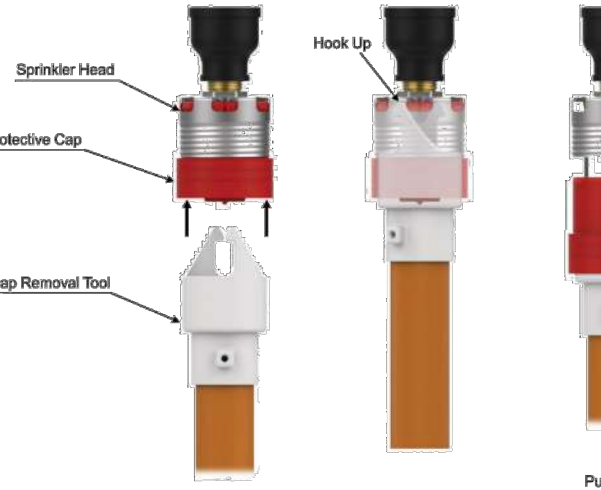

Figure 5: Protective Cap Removal
**Step 4:** Use the Cap Removal Tool for RC to remove the Protective Cap (Ref. Figure 5), and then push or screw a Cover Plate Assembly on the Cup of the Sprinkler by hand until its flange just has contact with the ceiling (Ref. Figure 6 and Figure 7). Stop tightening the Cover Plate Assembly once the flange has contact with the ceiling. If the ceiling has been lifted from its normal position in the process of tightening the Cover Plate Assembly, readjust the cover plate assembly as necessary. If the flange of the Cover Plate Assembly cannot contact the ceiling sufficiently, readjust the sprinkler fitting as necessary. When properly installed, there is a nominal 1/16 inch (1.6mm) air gap between the lip of the Cover Plate and the ceiling, as shown in Figure 6.